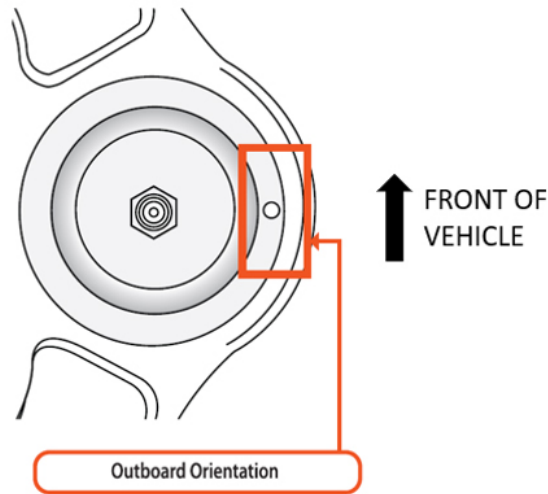

Figure 3. Correct ball joint installation orientation when mated to front upper control arm. Note drilled index mark position (highlighted orange box)
- During press-in, index mark must be oriented so that it is perpendicular to the wheel (facing outboard). For an illustration of correct installation orientation, **see Figure 3.**